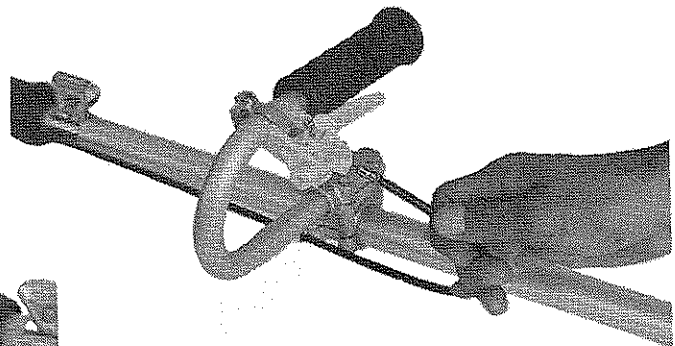

Figure 6
6. Bring the throttle wire up to the throttle lever and attach by inserting the ball lock into the slot of the throttle lever. Figure 6.